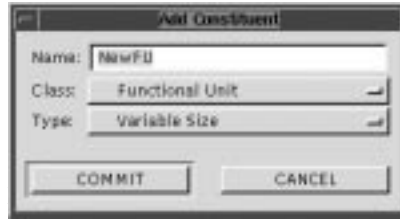

FIGURE 14. Add Constituent Window
1. Select the Constituent ... option from the Add ... cascading menu in the Edit Menu. This opens the Add Constituent dialog box (see Figure 14).